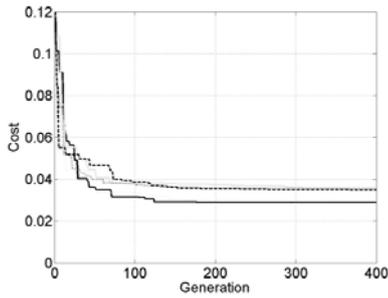

Figure 3: Example of GA convergence behavior for 5 independent runs.
but not the best agreement between measurements and predictions. For the application at hand a genetic algorithm (GA) has been used. The method works with populations of solutions and finds the global optimum by combining promising solutions in subsequent iterations. Figure 3 illustrates the convergence behavior of the algorithm. Since with these type of optimization methods there is always a possibility to end in a local optimum, five independent runs have been carried out. The resulting environmental parameters have been used for localizing both a source positioned at the bottom (see Figure 4), and the surface ship Ciclope (see Figure 5). For both acoustic sources the so-called ambiguity surfaces are shown. These quantify the agreement between the measured and modelled pressure fields for a grid of potential source positions. High levels, indicating good agreement between modelled and measured pressure fields, are indicated ▶